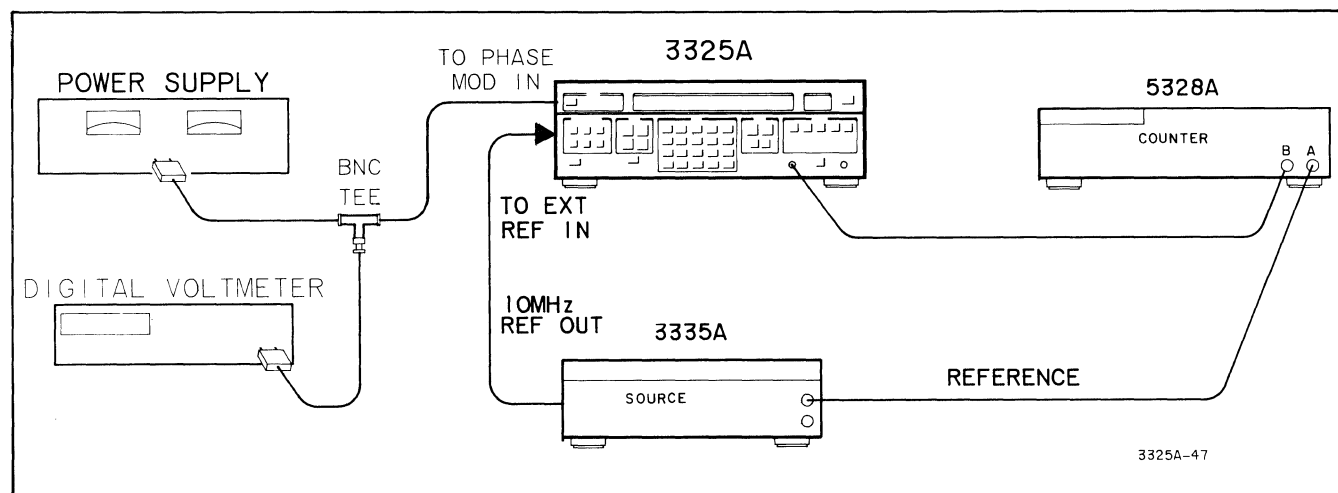

Figure 4-9. Phase Modulation Linearity.
a. Connect the equipment as shown in Figure 4-9.